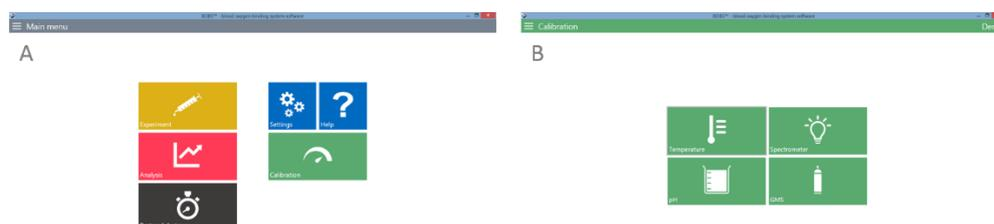

Figure 12: Spectrometer calibration menu.
3. Go to Calibration → Spectrometer (Figure 12)